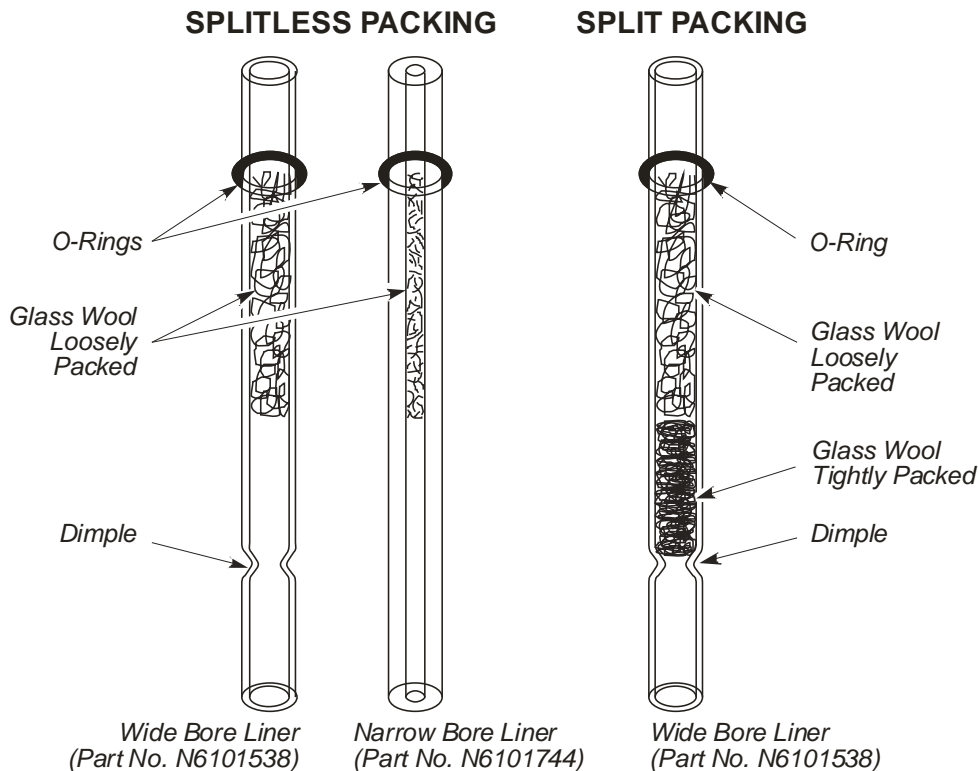

Figure 50. CAP injector liners packed with quartz wool.
2. Loosen the two hold-down screws on the Clarus 400/480 GC top cover (see Figure 50) and raise the top cover until it locks in the raised position.